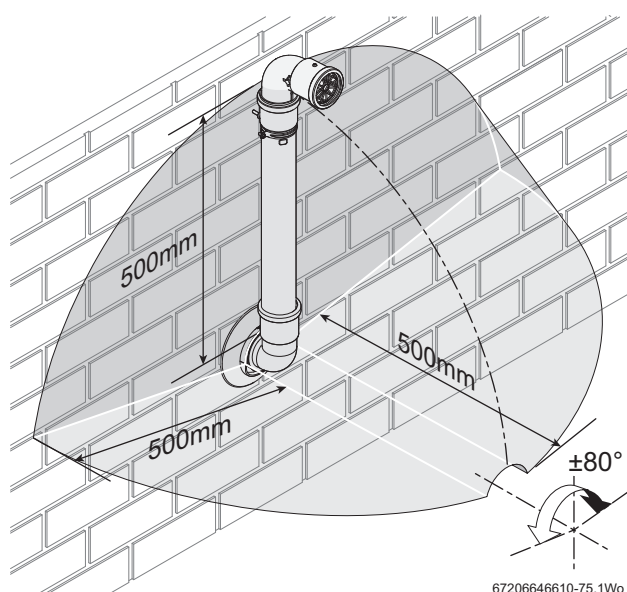

Fig. 19 Terminal exclusion zone
The minimum plume length should be calculated to ensure that the air inlet and exhaust have a minimum distance of 500mm between them (→ figure 19).
- Do not terminate the plume management inside the shaded area shown in figure 19